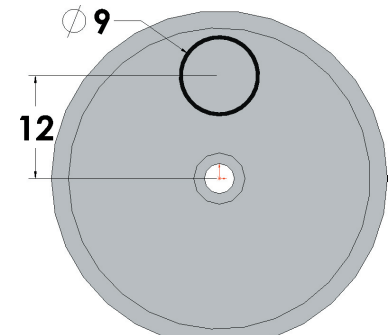

Fig. 12
Step 4. Draw a circle for the hole directly **above** the Origin , **Fig. 12**. Use the inferencing line, the dotted line that appears when you draw the circle.
Step 6. Dimension as shown in **Fig. 12**.